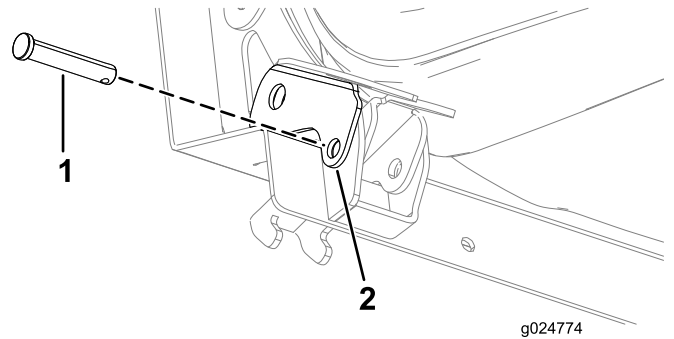

Figure 58
6. Partially move the clevis pin inward through the hole in the seat latch (Figure 58).